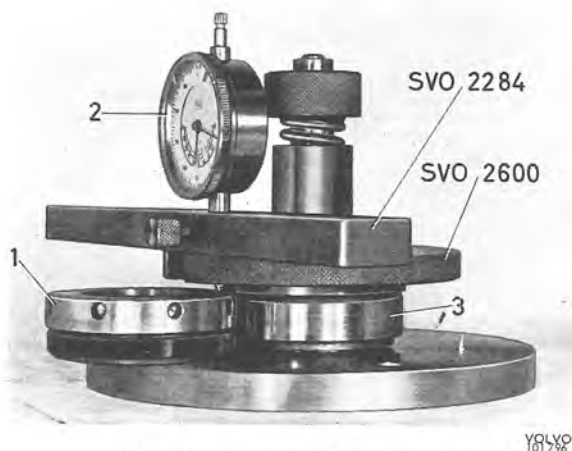

Fig. 4-155. Determining shim thickness
3. Place the rear pinion bearing complete with the outer ring in measuring fixture SVO 2600. Put on the plate, spring and nut. Turn the nut with the flat side facing upwards. The plate, and thereby the bearing, is turned forwards and backwards several times so that the rollers take up the correct position. Place the adjusting ring in the measuring fixture as shown in Fig. 4-155. Use retainer SVO 2284 and dial indicator, place the measuring point of the indicator opposite the adjusting ring and zero-set the indicator. Then set the pointer of the indicator to the outer ring of the bearing. The dial indicator now shows directly the thickness the shims should have. Measure the shims for the correct thickness with a micrometer, see Fig. 4-156. N.B. It is almost impossible to obtain a shim with exactly the correct thickness. However, they must not be 0.03 mm (0.0012") thicker than the measured value, but up to 0.08 mm (0.0032") thinner.
Rotate the plate forwards and backwards several times. Put on the dial indicator and retainer SVO 2284. Zero-set the indicator to the adjusting ring and then place the measuring point facing the bearing, see Fig. 4-155. Read off the indicator. With a micrometer measure the shims, the total thickness of which corresponds to the read-off value + 0.07 mm (0.003"). Place the shims together with the measured bearing to the one side. Repeat the above procedure with the other bearing.